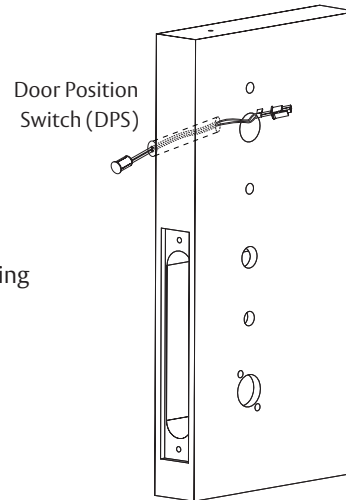

Fig. 6
5. Install door position switch. (Figure 6)